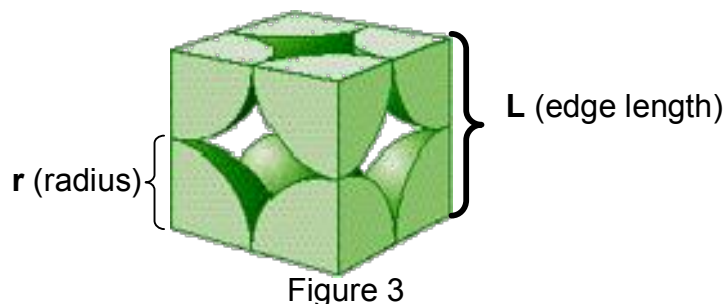

Figure 3
- Focus your attention on one unit cell. Note that, because the spheres are in contact along the cube edge, the edge length of the unit cell (distance from sphere center to sphere center) is just twice the radius of one sphere. See Figure 3.